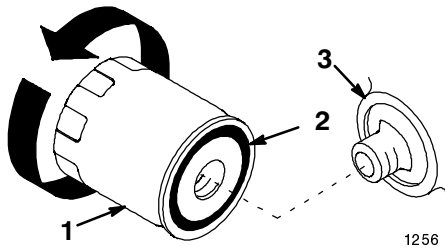

Figure 32
- Remove the old filter (Fig. 32).
- Wipe the filter adapter gasket surface (Fig. 32).
- Apply a thin coat of new oil to the rubber gasket on the replacement filter (Fig. 32).
- Install the replacement oil filter to the filter adapter. Turn the oil filter clockwise until the rubber gasket contacts the filter adapter, then tighten the filter by hand an additional 3/4 turn (Fig. 32).
- Add oil to the full (H) mark on the dipstick.